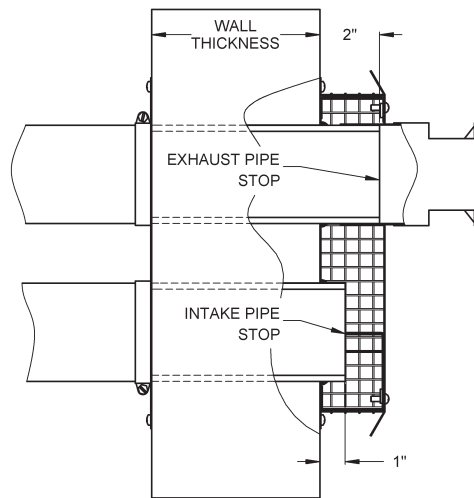

Figure 13: Pipes extend completely through the wall (Vertical orientation shown).
- The SST vent/air connections fit Sched. 40 two inch or three inch PVC/CPVC pipe. PPs pipe cannot be used with the SST. The pipes must extend completely through the wall as shown in Figure 13. The SST is an external fixture and not part of the sealed vent system that runs inside the building.